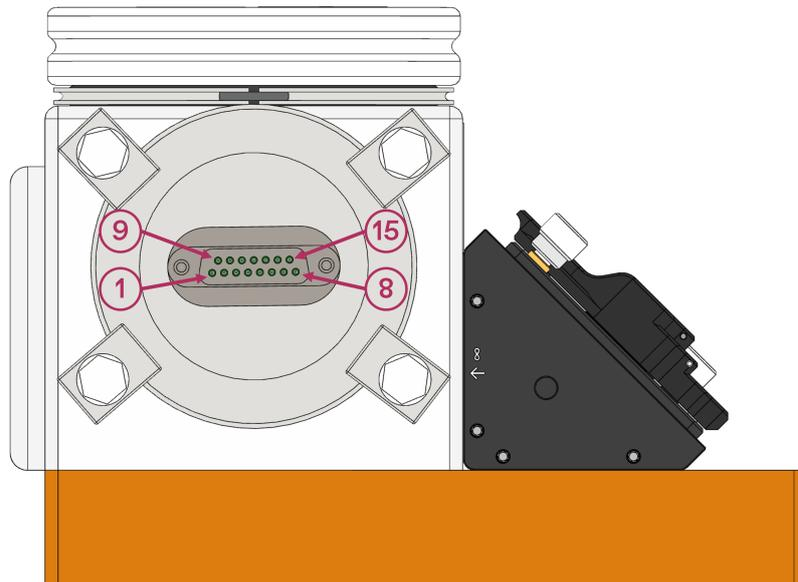

Figure 65: A Sub-D 15-pin port is located on the side of EMILIE™. The pin numbering is indicated in red. For detailed information see Table 9.
The EMILIE connector on PHILL™ is connected to the Sub-D 15-pin port on the side of EMILIE™ shown in Figure 65. The pinout of the Sub-D 15-pin connector located on the side of EMILIE™ is listed in Table 9. The pinout of the EMILIE connector on PHILL™ is shown in Table 10. The pin "P_Drive" is internally shorted to the "(D) Drive" BNC port and "P_Sensor" is internally shorted to the "Input" BNC port (see Table 11).